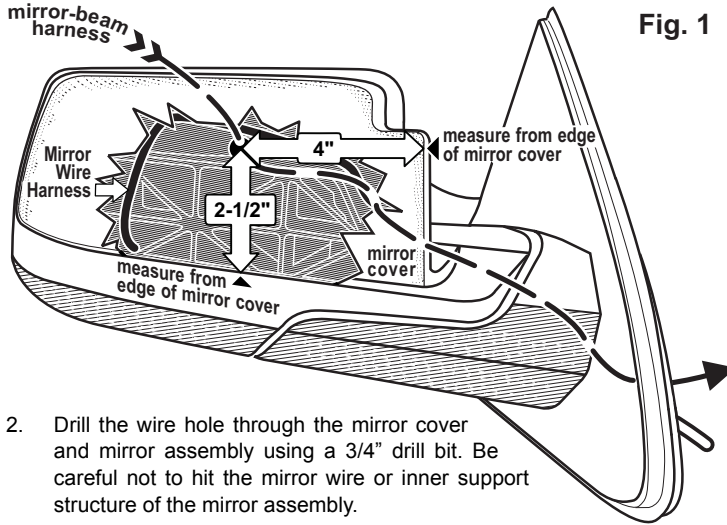

Fig. 1
1. When drilling the wire hole be careful not to hit the mirror wiring harness. The location of the mirror wiring harness is shown (Fig. 1). There is also an inner support structure inside the mirror which you must avoid. Measure 4 inches from the inside edge and 2-1/2 inches from the top edge of the mirror cover as shown to locate the center of the wire hole and mark the location off onto the cover.
2. Insert ty-wrap into the front of the mirror assembly (Figs. 1 & 2) and route the Mirror-Beam™ cable into the assembly and out the base, following the path of the mirror assembly harness. There should be 4 to 5" of cable protruding from the front of the mirror assembly.